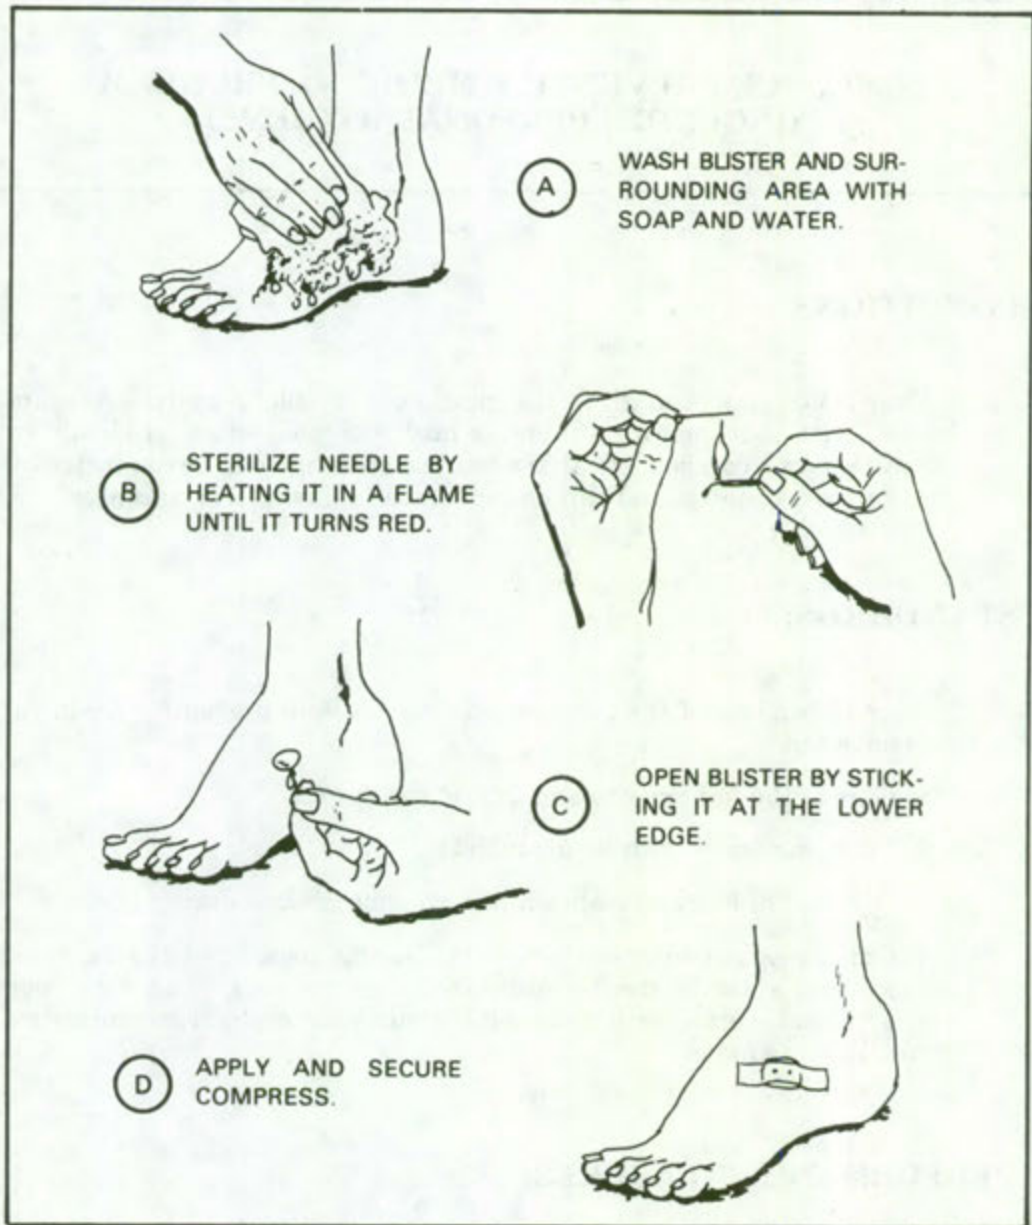

Figure 1.
- a. Prior to the march, all men should be equipped with the proper type of correctly fitted, broken-in footwear, clean socks which are free of holes or knotty darns, and an adequate supply of foot powder. A soldier must never attempt to break in a new pair of shoes or boots on a long march. Blisters (figure 1), pressure spots, and infections should be treated and properly protected before the march starts.